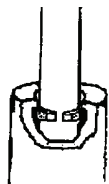

Figure 7
2. Hold the tip with one hand and handle with the other hand and **give a strong tug trying to pull them apart** (see Figure 7). It will **click** into place. Make sure it has seated evenly by looking down into it. If you suspect the ring is still above the groove, push it again with the screwdriver.